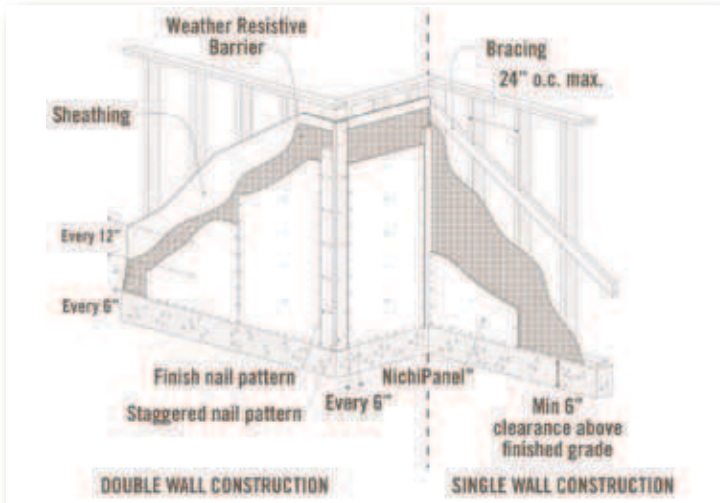

Fig. 7.1
- NichiPanel™ can be installed directly on braced wood or steel stud (20GA or heavier) construction spaced at a maximum of 24" o. c. or over sheathing with vertical solid wood or steel backing. (Fig. 7.1)